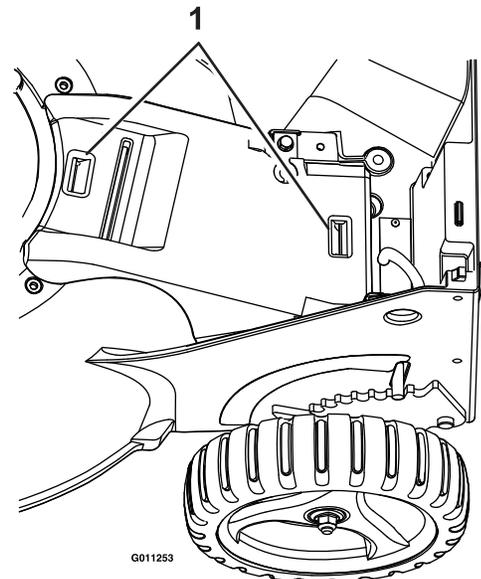

Figure 30
cover tabs (see Figure 30). Remove any debris under the cover.
3. Pull upward on the back of the cover to unsnap the front and back cover tabs (see Figure 30).